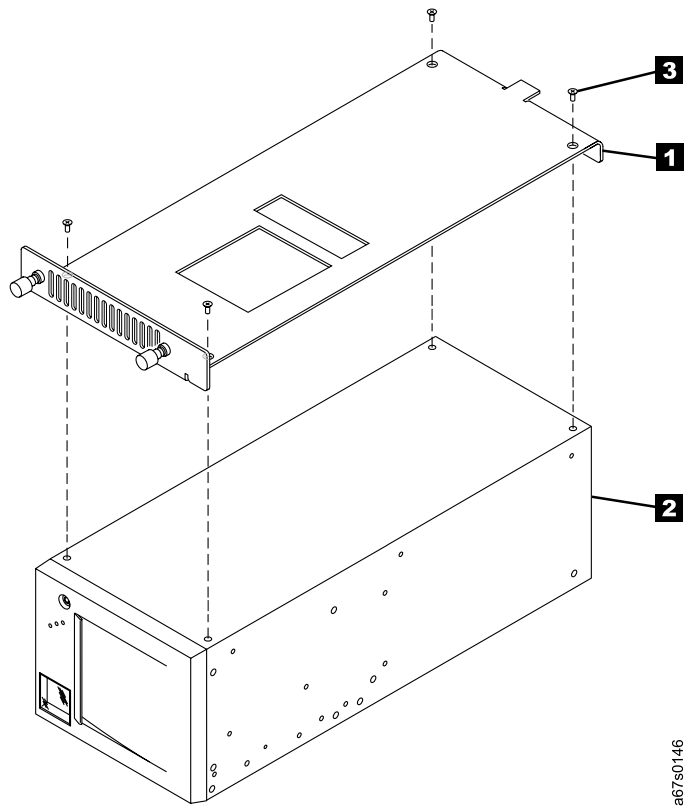

Figure 43. Installing the 3581 Tape Autoloader onto the sled. Both the autoloader and the sled are upside down.
9. Turn the sled (see **1** in Figure 43) upside down and place it onto the 3581 Tape Autoloader **2**. Secure the sled to the autoloader with four flat-head screws **3**.